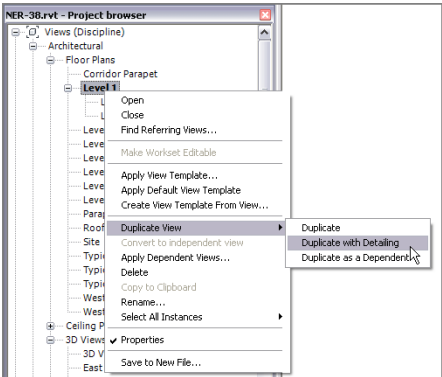

FIGURE 20.18: Duplicating the view
- 2. Right-click the Level 1 view in the Project Browser, and click Duplicate View > Duplicate With Detailing, as shown in Figure 20.18.